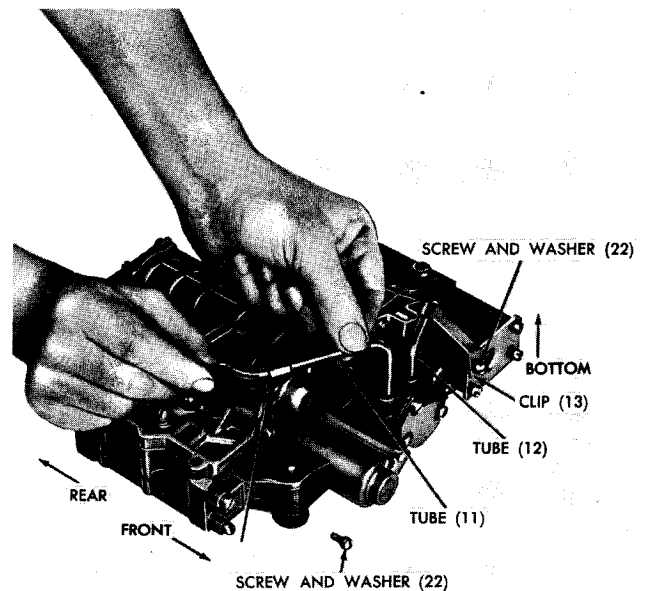

Fig. VIII-16 Installing drive transfer tube and clip
(17) Oil transfer tubes (fig. VIII-16)